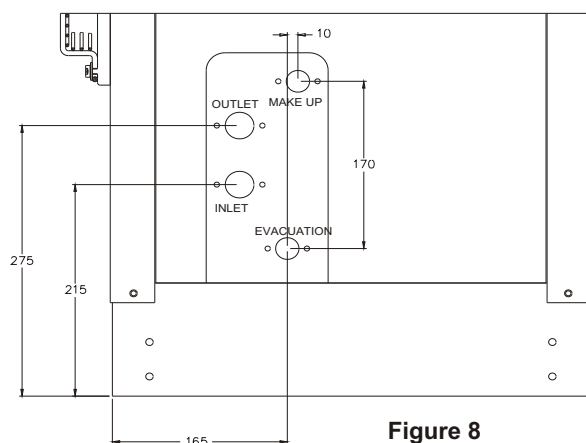

Figure 8
- Water connections on the unit are clearly marked with the labels Inlet, Outlet, Make-up and Evacuation. The positions of water connections are shown in figure 8.